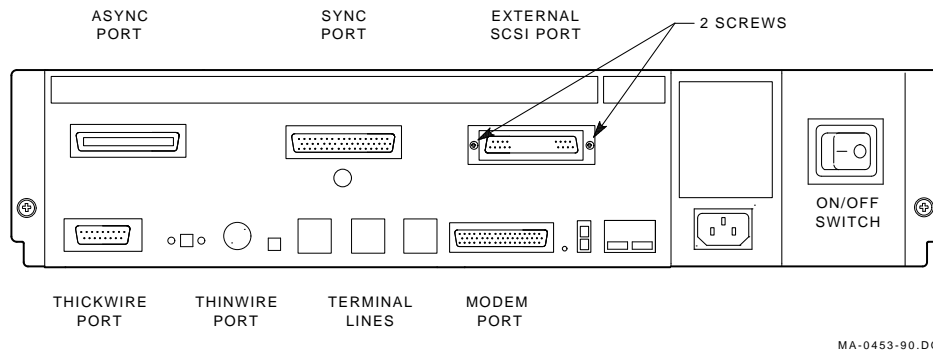

Figure 1-2 SCSI Port Connector Removal
1. Remove the SCSI "B" external port connector from the rear panel by removing the two mounting screws on the rear of the system unit (Figure 1-2).